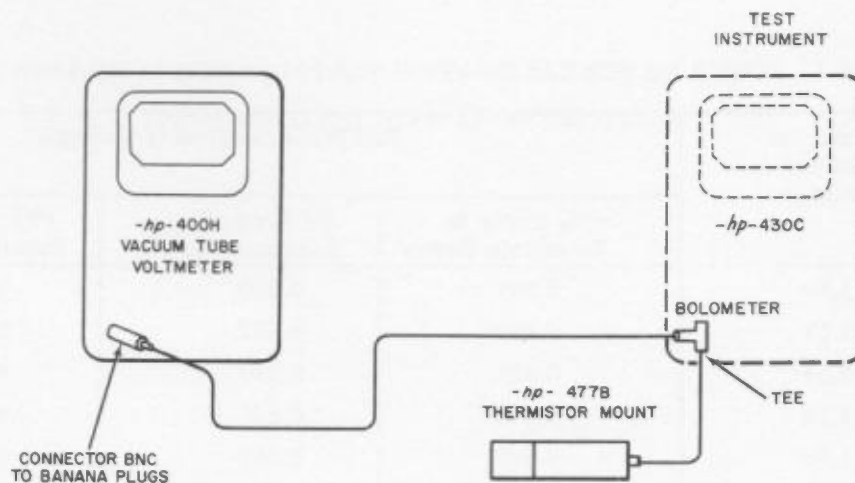

Figure 9-1. Checking Operation of the 430C Power Meter
1) Connect the equipment as shown in Figure 9-1. (The VTVM must be newly calibrated using either a